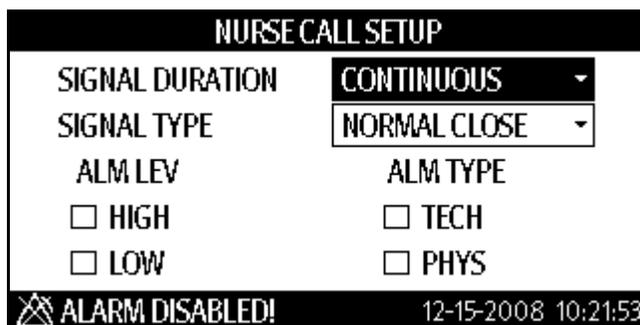

FIGURE 6-15 NURSE CALL SETUP dialog
7. Once **NURSE CALL** is highlighted, press  to display the **NURSE CALL SETUP** dialog shown in FIGURE 6-15.